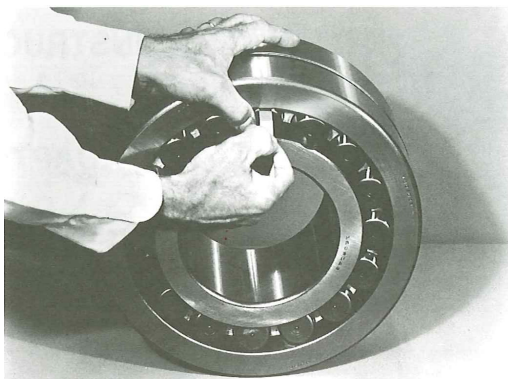

Figure 1 - Measurement of Internal Clearance
2. Measure the internal clearance of the bearing before mounting. Place the bearing in an upright position as shown in Figure 1. Seat the inner ring and roller elements by pressing down firmly on the inner ring bore while rotating the inner ring a few times. Position the roller assemblies so that a roller is at the top most position on each side. Press these top rollers inward ensuring contact with center guide flange. Using a feeler gauge measure the clearance for both sides by inserting as far as possible and sliding over top of roller (Figure 1). Write down the measured clearance for use in Step 3d.